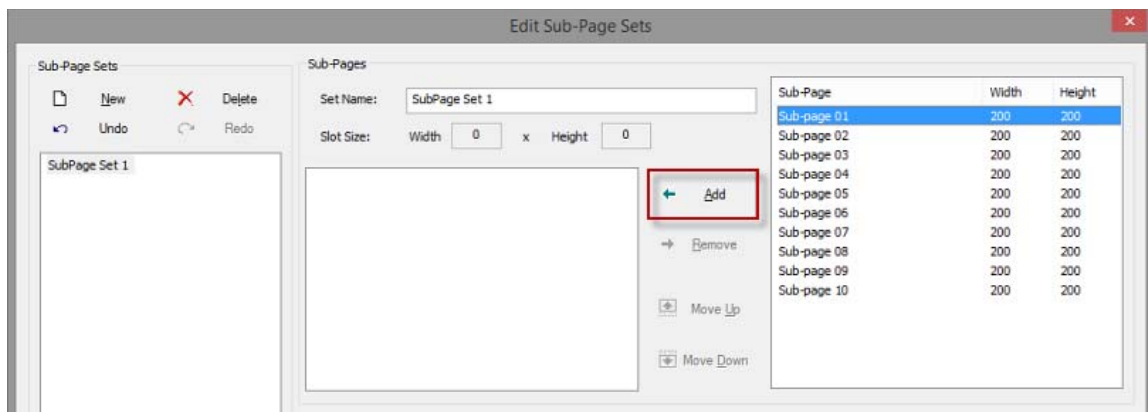

FIG. 96 Edit Sub Page Sets dialog - Select a Sub-Page
- a. Select a Sub-Page from the Sub-Pages list on the right-side of the dialog (FIG. 96):